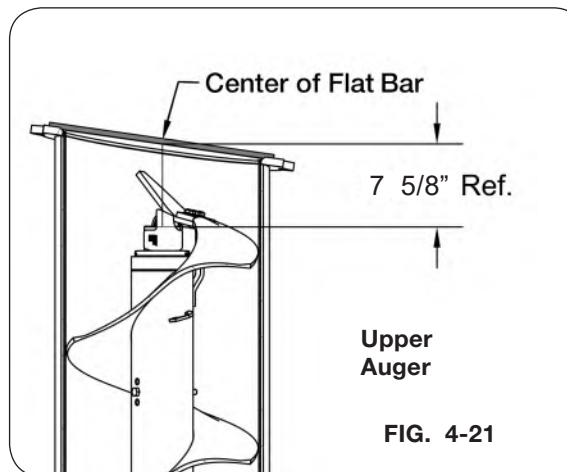

FIG. 4-21
11. Place a flat bar across the center of the auger housing tube. Measure the distance between the center of the face of the soft start bushing that sits on the top of the drive dog and the center of the flat bar. Verify the upper auger in-set of approximately 7 5/8". With the upper auger folded back, ensure the height of the upper auger is set correctly. If this dimension is not correct, loosen the set screws in the flange bearing at the top of the upper auger and slide the auger through the bearing to this correct position. Tighten set screws. (FIG. 4-21)